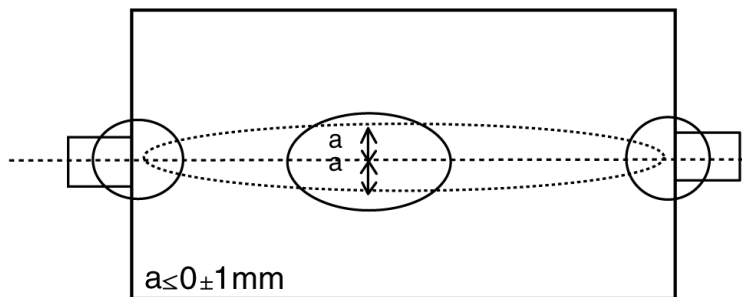

FIG 4
5. Set 2 magnet of vertical position to up and down equally so that center part of CRT (Fig 4)